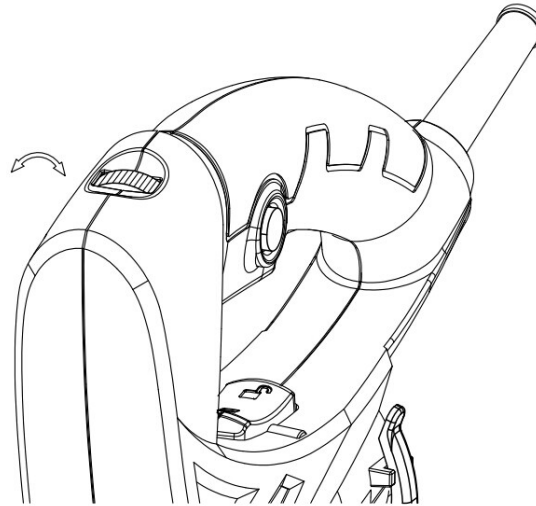

fig. 4
8. Adjustable speed switch (figure 4).